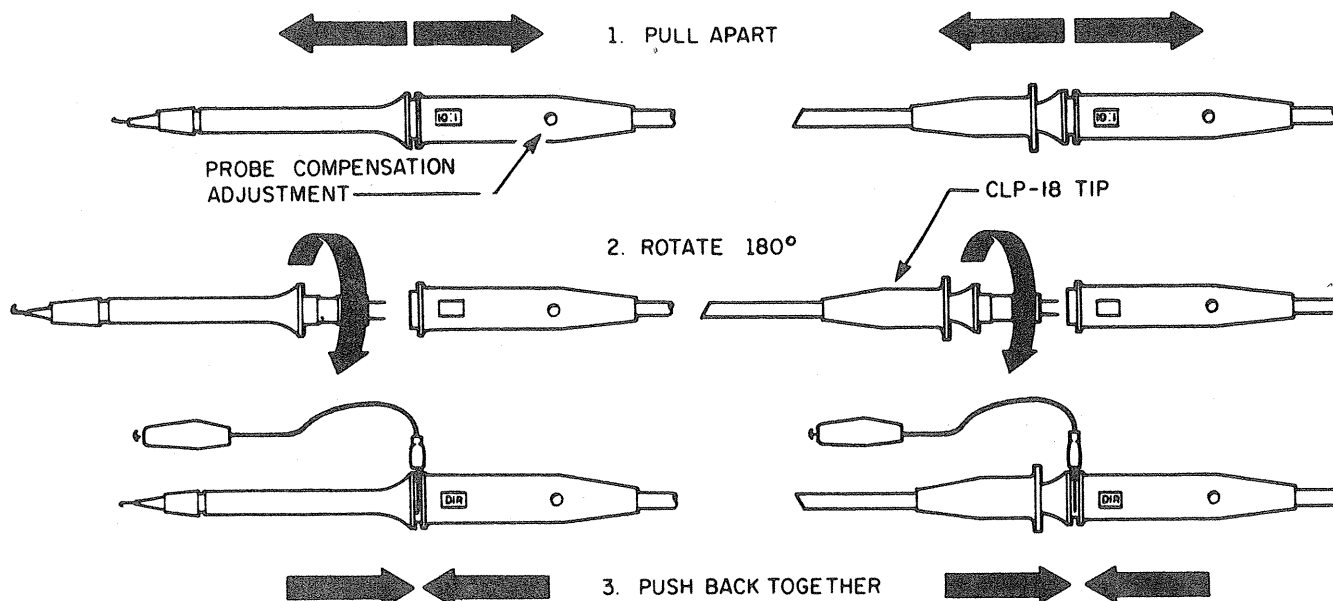

Figure 3. Probe Details
The probe assemblies are illustrated in Figure 3 of the text.
- 34** Bezel Retaining Nuts (4). Bezel must be removed to replace 8 x 10 graticule with Vector Overlay for vectorscope operation.
- 35, 36** Probes (See Figure 3). The B & K Model PR16 and PR20 combination 10:1/Direct probes have been designed for use with this oscilloscope. However, any probe designed for use with an oscilloscope having a nominal input impedance of 1 megohm shunted by 35 pf can be used. The range of compensation adjustment should be checked using the CAL 1V p-p jack **30**.
2. For all except low amplitude waveforms, the probes are set for 10:1 attenuation. For low amplitude waveforms (below 0.5 volt peak-to-peak), set the probe for DIRECT. See Figure 3 for changing the probes from 10:1 to DIRECT, or vice versa. The probe has a 10 megohm input impedance with only 18pF shunt capacitance in the 10:1 position and 1 megohm with 120pF shunt capacitance in the DIRECT position. The higher input impedance (low capacity position) should be used when possible to decrease circuit loading.
2. If the Model PR-16 or PR-20 oscilloscope probes are used, a 10:1 attenuation should be used except for waveform amplitudes of .5 V peak-to-peak or less. At the lower amplitude waveforms the DIR position should be used. See Figure 3 for changing the probe from 10:1 to DIR or vice versa. Wherever possible, the 10:1 position should be used to minimize circuit loading.